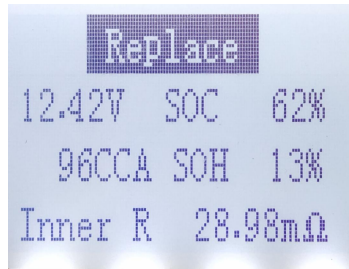

Figure 6
(6) Press the OK key to enter and get the result. Figure 6: